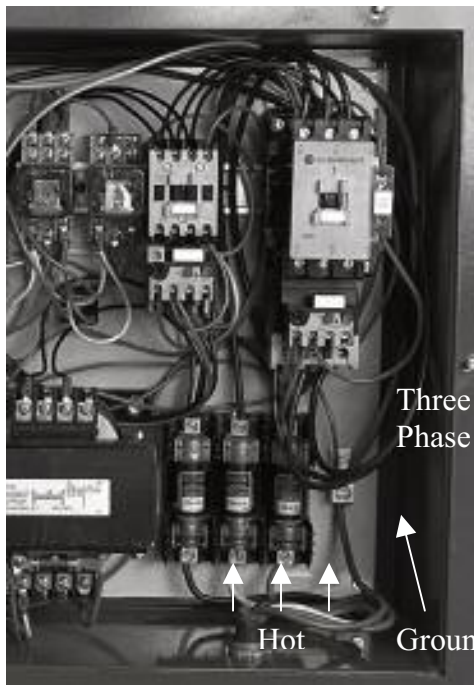
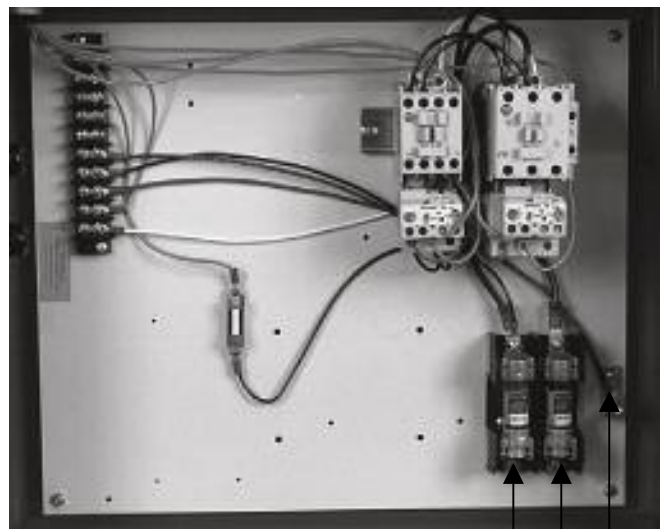

Figure 14
Figure 15
2. Connections are made at the fuse block located inside the electrical box mounted on the side of the machine. Refer to the diagram for a three phase hookup (Figure 14) and a single phase hookup (Figure 15). Please note that single phase machines require a 4 wire hookup; which includes 2 wires to hot, 1 wire to ground and 1 wire to neutral. The machine will not operate without the neutral connection.
2. If both the table motor and the grinding motor are rotating the wrong direction, interchange any two of the three HOT LEADS of the 3 Phase connection at the electrical box (Figure 14). DO NOT INTERCHANGE GROUND WIRE. If the rotation is correct on one motor, but not the other, contact Van Norman technical assistance.